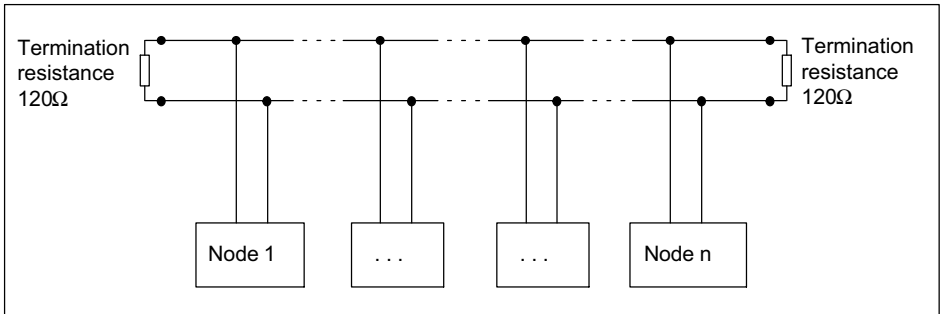

Fig. 9.1 Bus termination resistors
*Ensure correct termination with termination resistors is made, as shown in Fig. 9.1. The MX840B does not have any termination. The MX471B/C has internal termination that can be activated via software.*